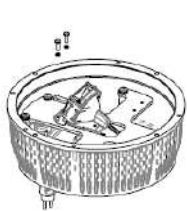

Figure 5-8
- Unscrew M4×10 bolts and elastic washer and take down the lamp holder (see Figures 5-8 and 5-9);